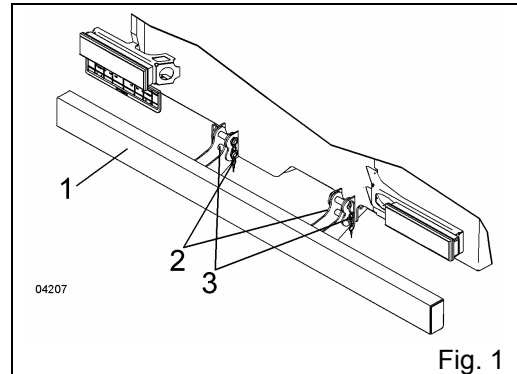
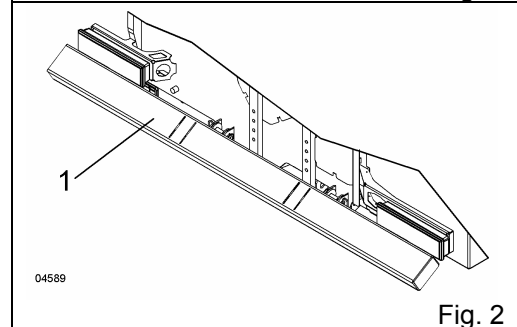

Fig. 1
Fig. 2
The underride guard (1) is provided at the rear of the vehicle and can be detached and folded upwards (Fig. 2) for off-road travel to increase the overhang angle.
- Remove spring clips (2) and remove the lower pins (3).
- Swing underride guard (1) upwards and hold it until the pins (3) have been reinserted in their bore-holes and locked by means of the spring clips (2).
- Place the underride guard (1) on the pins (3).
**NOTE** Operation of the vehicle with the underride guard folded upwards is not admissible on public roads. The underride guard must be mounted and pin-fastened as shown in Fig. 1.